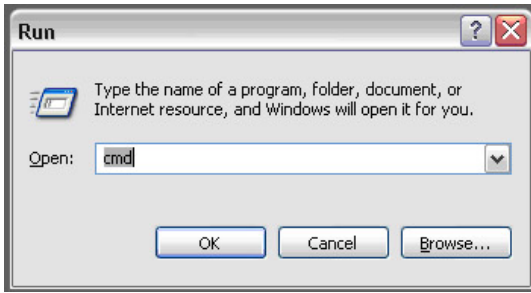

Figure 5
- 2) Enter "CMD" and click "OK" (Figure 5).